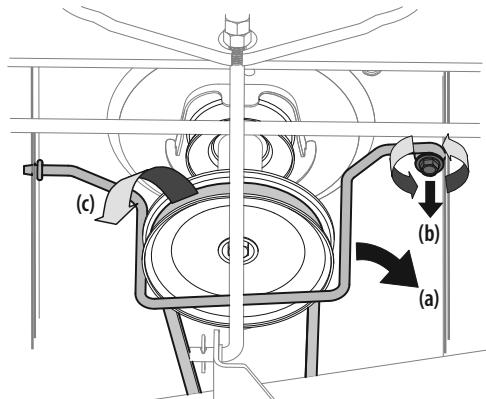

Figure 30
- Remove the belt-keeper rod (a), from around the tractor's engine pulley, by removing the self-tapping screw (b) that secures it. See Figure 30.
- Remove the belt (c) from around the tractor's engine pulley and idler pulley(s). See Figure 30.